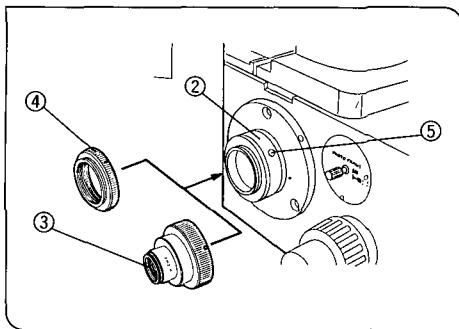

Fig. 111
3. Firmly screw the C/T-mount adapter (U-CMT) ③ or F/T-mount adapter (U-FMT) ④ onto the video adapter (IX-TVAD) ②. (Fig. 111)